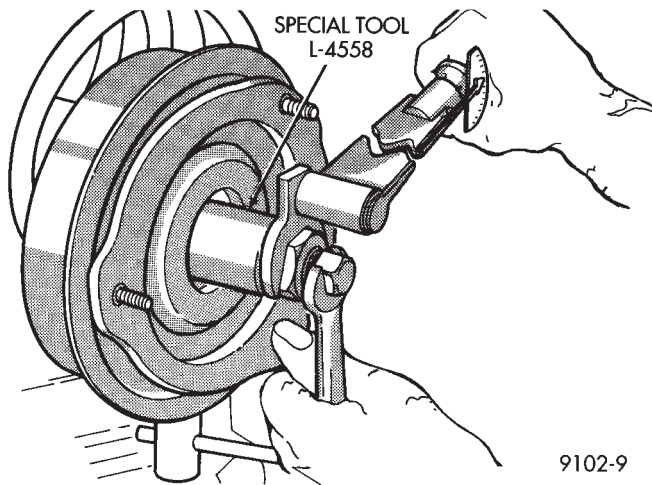

Fig. 7 Tighten Strut Rod Nut with Tool
(6) Tighten the strut shaft nut using, Strut Rod Socket And Holder, Special Tool L-4558. Torque strut shaft nut to 75 N•m (55 ft. lbs.) plus 1/4 turn (Fig. 7).